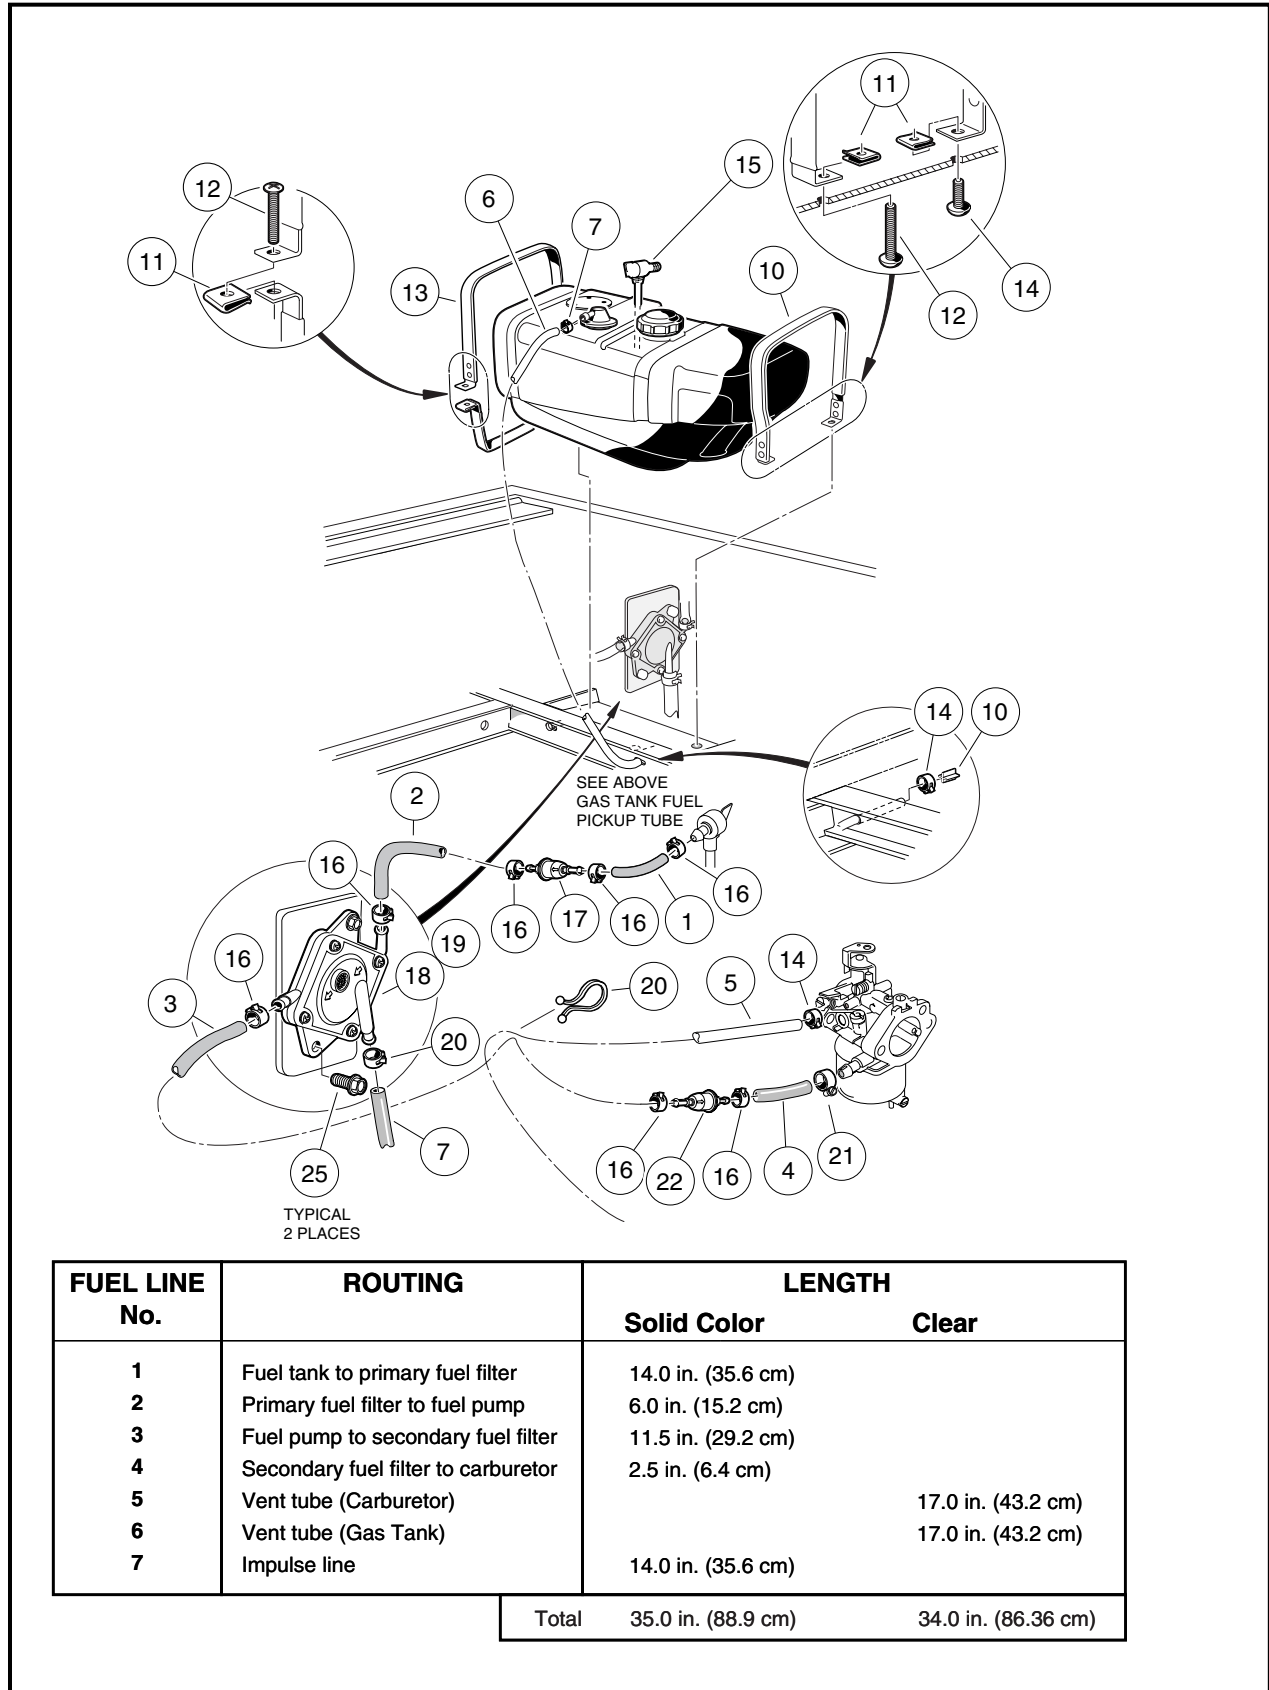

Figure 14-16 Turf/Carryall 272 Fuel and Vent Lines
4. Remove hardware (25) attaching the fuel pump (18) and lift the fuel pump out of the engine compartment (**Figure 14-16, Page 14-26 or Figure 14-17, Page 14-27**).
5. Remove the clamp (20) and impulse line (7) from fuel pump.
1. Connect the fuel line (2) that comes from the fuel filter (17) to the fuel pump (18). Install a new clamp (16) (**Figure 14-16, Page 14-26 or Figure 14-17, Page 14-27**). **See same figure for proper routing of fuel lines. See following NOTE.**
**NOTE:** Be sure to connect the fuel line (2), that comes from the primary fuel filter (17), to the inlet nipple on the pump. Direction of fuel flow is indicated by the arrows on the fuel pump.
2. Connect the fuel line (3) to the fuel pump (18) that goes to the secondary fuel filter (22). Install a new clamp (16).
3. Connect the impulse line (7) to the bottom nipple on the fuel pump (18). Use a new clamp (20).
4. Install the fuel pump onto the mounting bracket with two thread-rolling screws (25) and tighten to 40 in-lb (4.5 N·m).
11. Loosen clamp (16) and remove the fuel line (1) from fuel tank shut-off valve (15) (**Figure 14-16, Page 14-26 or Figure 14-17, Page 14-27**).
12. Loosen clamp (7) and remove vent tube (6) from the fuel tank.
- 13.1. Loosen the straps (13 and 10) by removing screws (12 and 14) from the speed nuts (11) (**Figure 14-16, Page 14-26**).
1.1. Position the retaining straps (13 and 10) and install the fuel tank (**Figure 14-16, Page 14-26**).
1.2. Install the screws (12 and 14) into the speed nuts (11) and tighten screws to 25 in-lb (2.8 N·m) (**Figure 14-16, Page 14-26**).
3. Connect the vent tube (6) to the gas tank vent (**Figure 14-16, Page 14-26 or Figure 14-17, Page 14-27**).
4. Connect fuel line (1) to the fuel tank shut-off valve (15). Use a new clamp.
Fuel line no. 1 runs directly from the fuel tank to the primary fuel filter (17). Arrow indicates flow (**Figure 14-16, Page 14-26 or Figure 14-17, Page 14-27**).